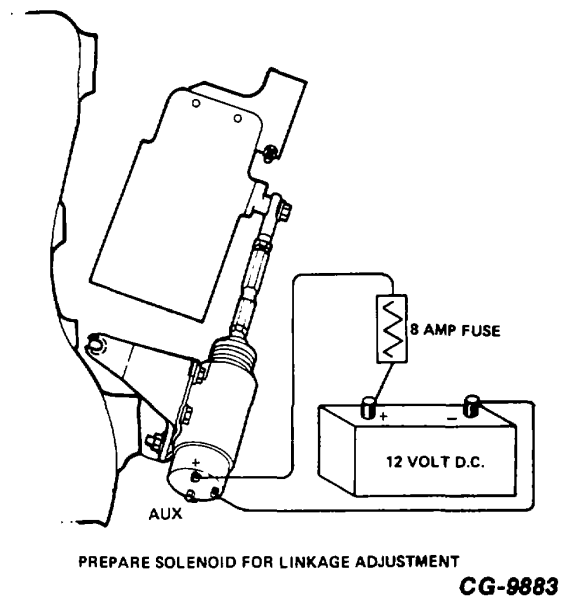

Figure 37.
6. Reinstall plunger into solenoid, depress plunger to bottom, energize solenoid using a 12 volt D.C. power source with 8 ampere "slow blow" fuse protection (Figure 37). Be sure that positive lead is connected to positive terminal, negative to negative. When solenoid is mounted to engine, the positive terminal will be closest to engine water pump and the negative terminal will be between the positive terminal and the unused auxiliary terminal. The auxiliary is closest to flywheel housing. Solenoid is to be energized through step 7.